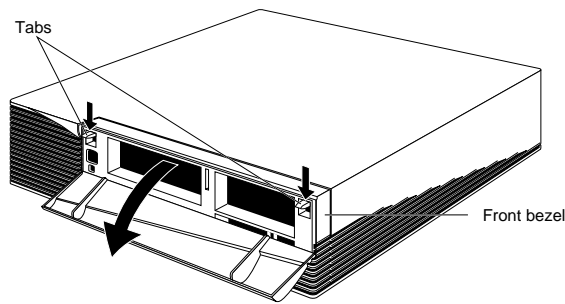

Figure 4-1 Removing the Front Bezel from the Indigo² Chassis
- Press down on the tabs on each side of the bezel, as shown in Figure 4-1.